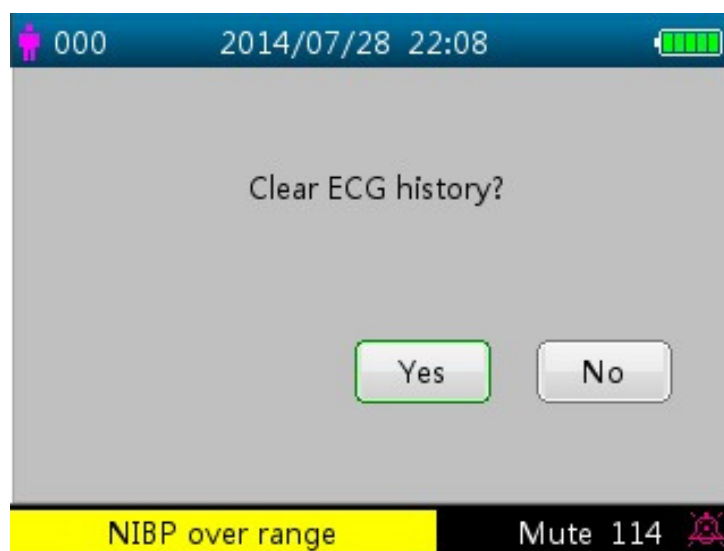

Figure 4.5 Delete ECG history
- ☒ Long pressing OK  key, then a dialog of deleting records pops up, as shown in figure 4.5, the user can delete all history ECG waveform data according to prompt.